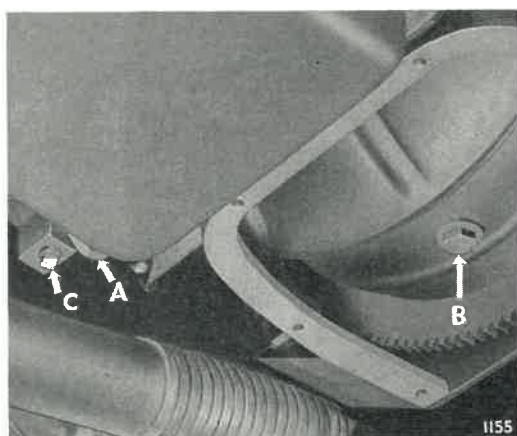

Fig. 50. Drain plugs (converter housing cover plate removed).
3. Remove the transmission oil pan drain plug. (A, Fig. 50).
4. Remove the converter housing cover plate and rotate the converter until drain plug is in position for draining. Remove the converter drain plug (B).